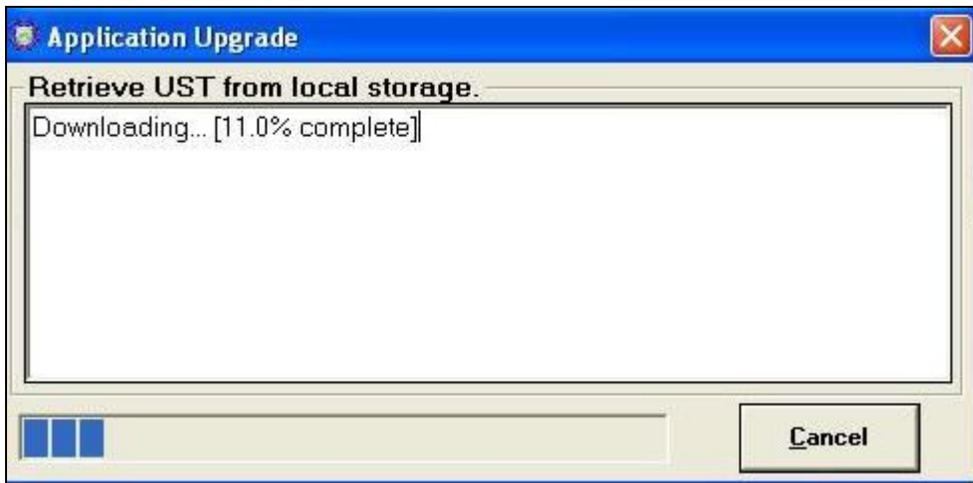

Figure 2.4.5
3. Click ‘Yes’ to install the upgrade. The system checks for proper authorization to perform the install. If the operator does not have the authority to run the install, an authorization window appears requesting the login and password of an authorized user. The install only occurs if an authorized user supplies their login and password. If the authorization process is satisfied, the install begins. The window displays the percentage of completeness (Figure 2.4.5).